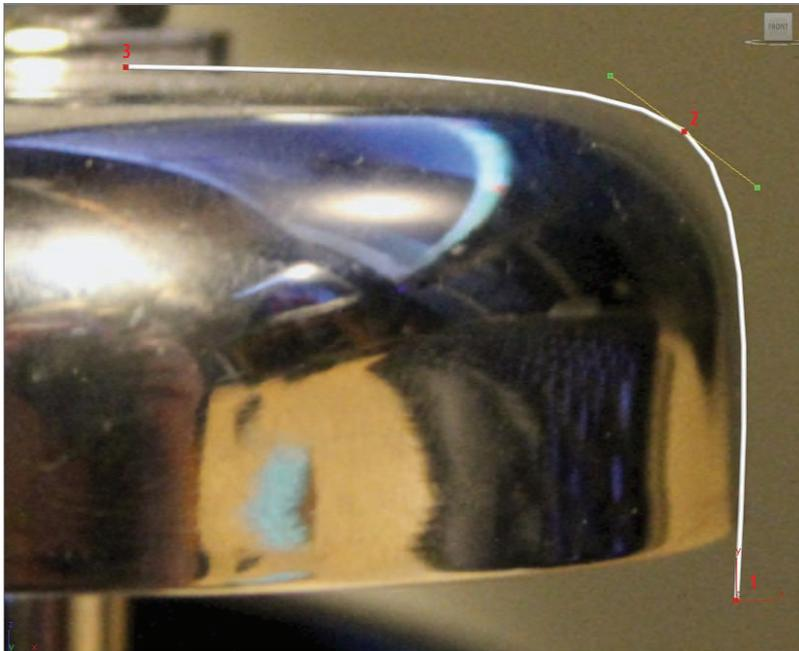

FIGURE 2.28 The bell's profile line with the vertices numbered according to their creation order
Figure 2.28 shows the cross section with the vertices numbered according to their creation order.
3. Now move the mouse up where the bell curves and drag out a tangent to create a Bezier vertex (2).
5. Again, move the mouse to the left and to the middle of the bell, and click to create a corner vertex (3).
6. Right-click to release to end the Line tool. The profile should match Figure 2.28.